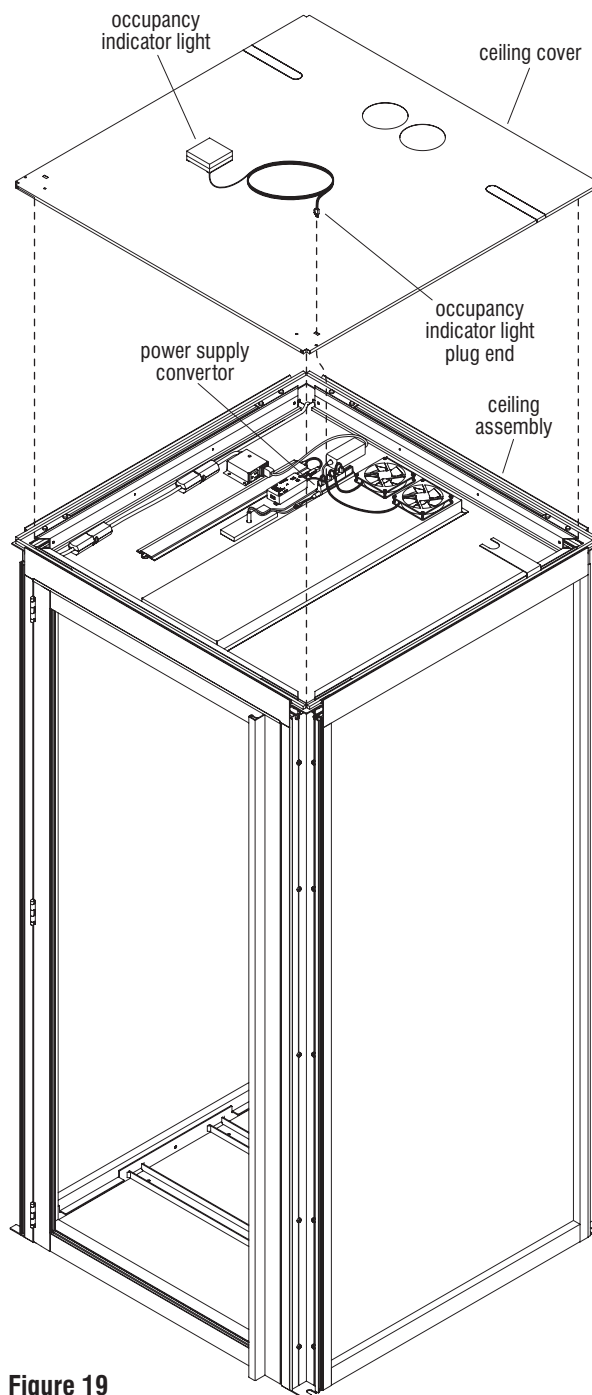

Figure 19
Note: When placing the ceiling cover on top of the ceiling assembly, the cover must be oriented so the ceiling fan cutouts are above the fans (Figure 19).
2. Lift the ceiling cover over the top of the pod and carefully set in place on the ceiling assembly (Figure 19).